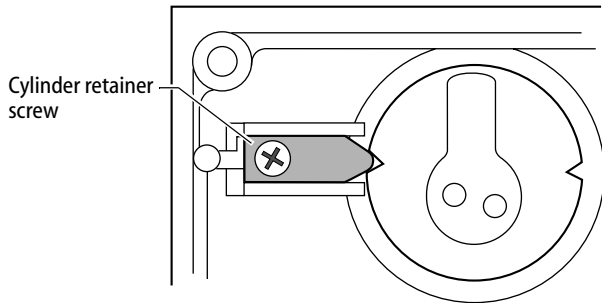

Figure 6
- 1 With the cam in the vertical position, tighten the cylinder retainer screw as shown in Figure 6. If possible, use an ED211 cylinder wrench.